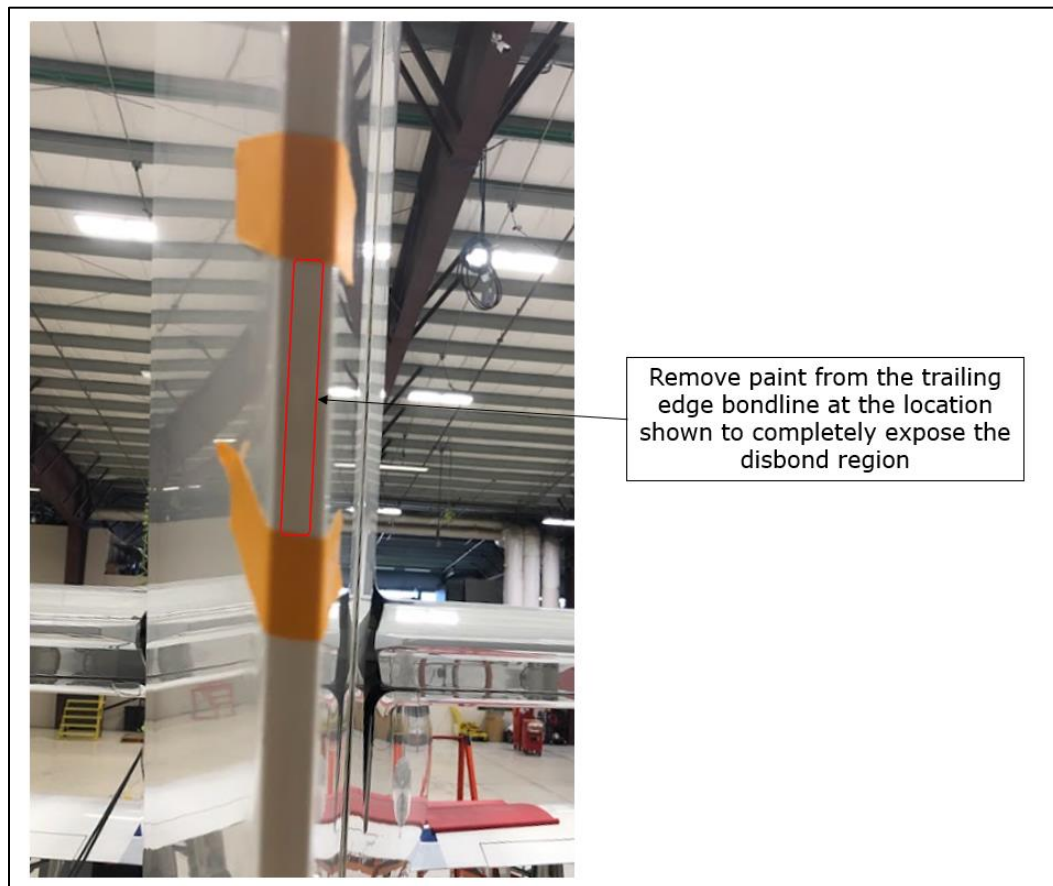

Figure 2: Paint Removal Region
5. Remove the paint from the indicated area at the rudder trailing edge, refer to Figure 2.